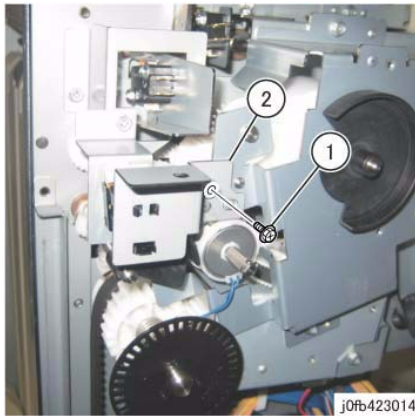

Figure 7 Stack Sensor
10. Remove the Stacker Height Sensor 2 together with its bracket. (Figure 7)